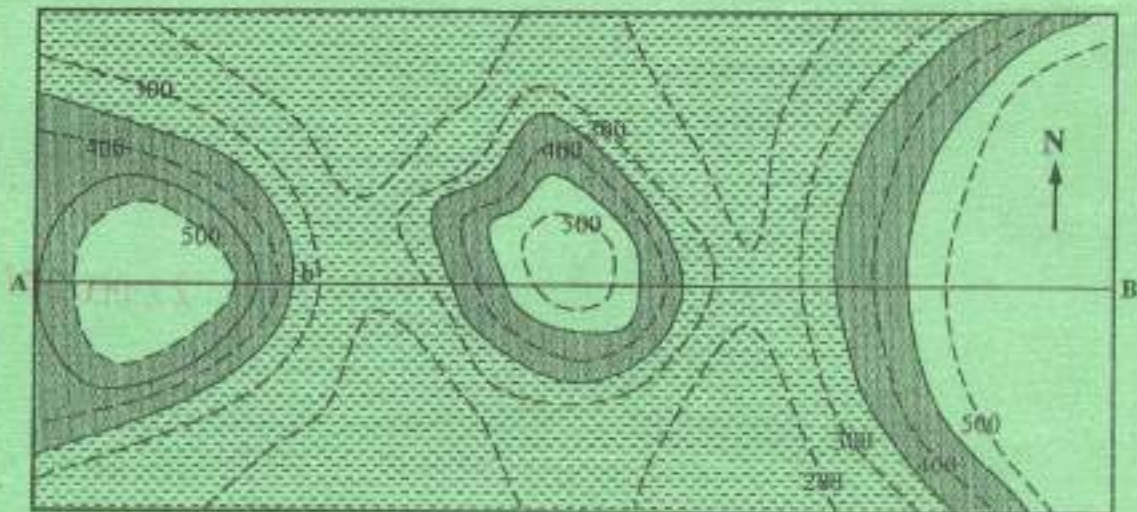

Fig. 3
- (c) With reference to **figure 3** draw a geological cross-section of A-B. (8 marks)